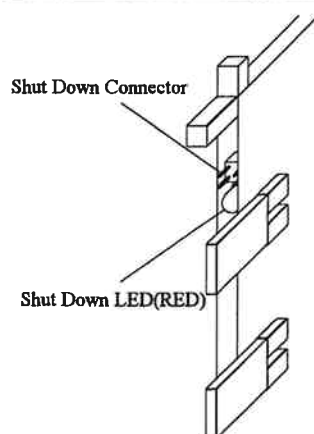

Fig. 3.4.8.3.2-1 Shut Down LED
- a. Confirm that Shut Down LED lights.(Fig. 3.4.8.3.2-1) If the LED does not light, see Connection of Shut Down Jumper(INST03-2600).